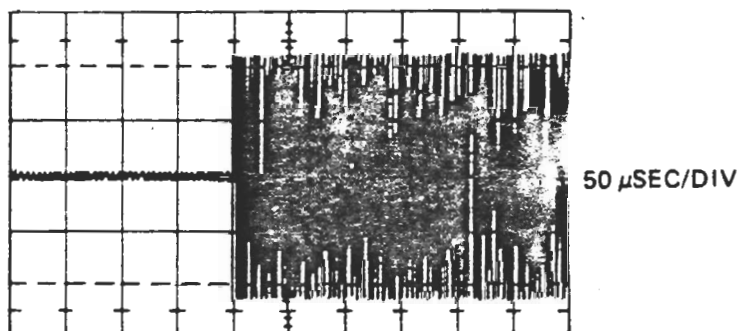

Figure 6-6 Index Pulse and Data Burst
- f. The start of the data burst should lag the negative-going edge of the index pulse by $200 \mu\text{sec} \pm 50 \mu\text{sec}$. (Figure 6-6)